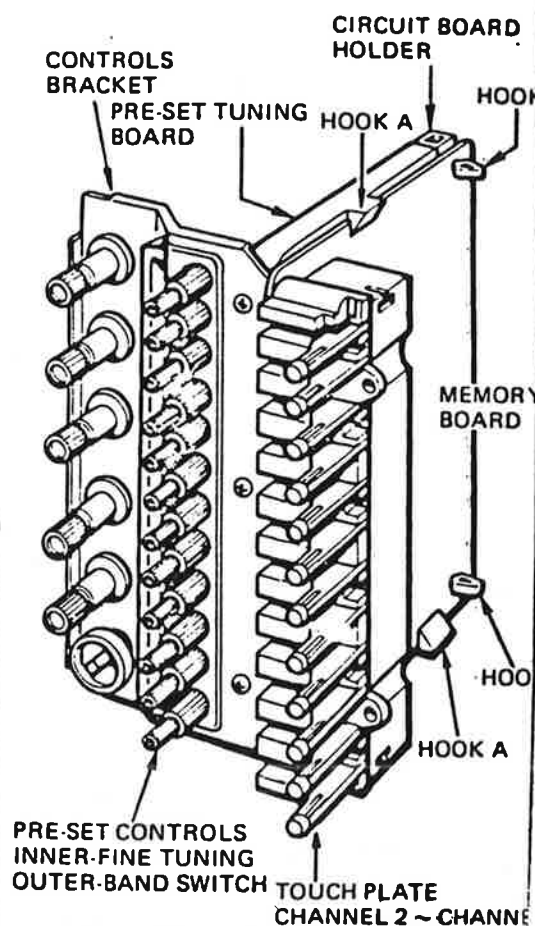

Figure 1
1. Remove Tuning and Controls unit, refer to Tuning and Controls unit removal. Push the Hooks A (2 Hooks) outward and remove Memory Board front from Circuit Board Holder. See Figure 1.